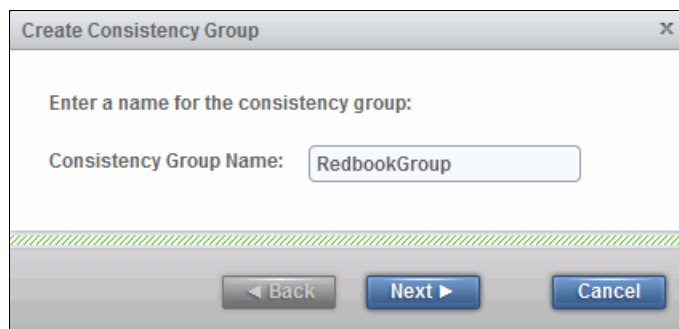

Figure 10-121 Enter a name for the new consistency group
2. You must enter a name for your new consistency group, as shown in Figure 10-121. In this case, name it RedbookGroup.